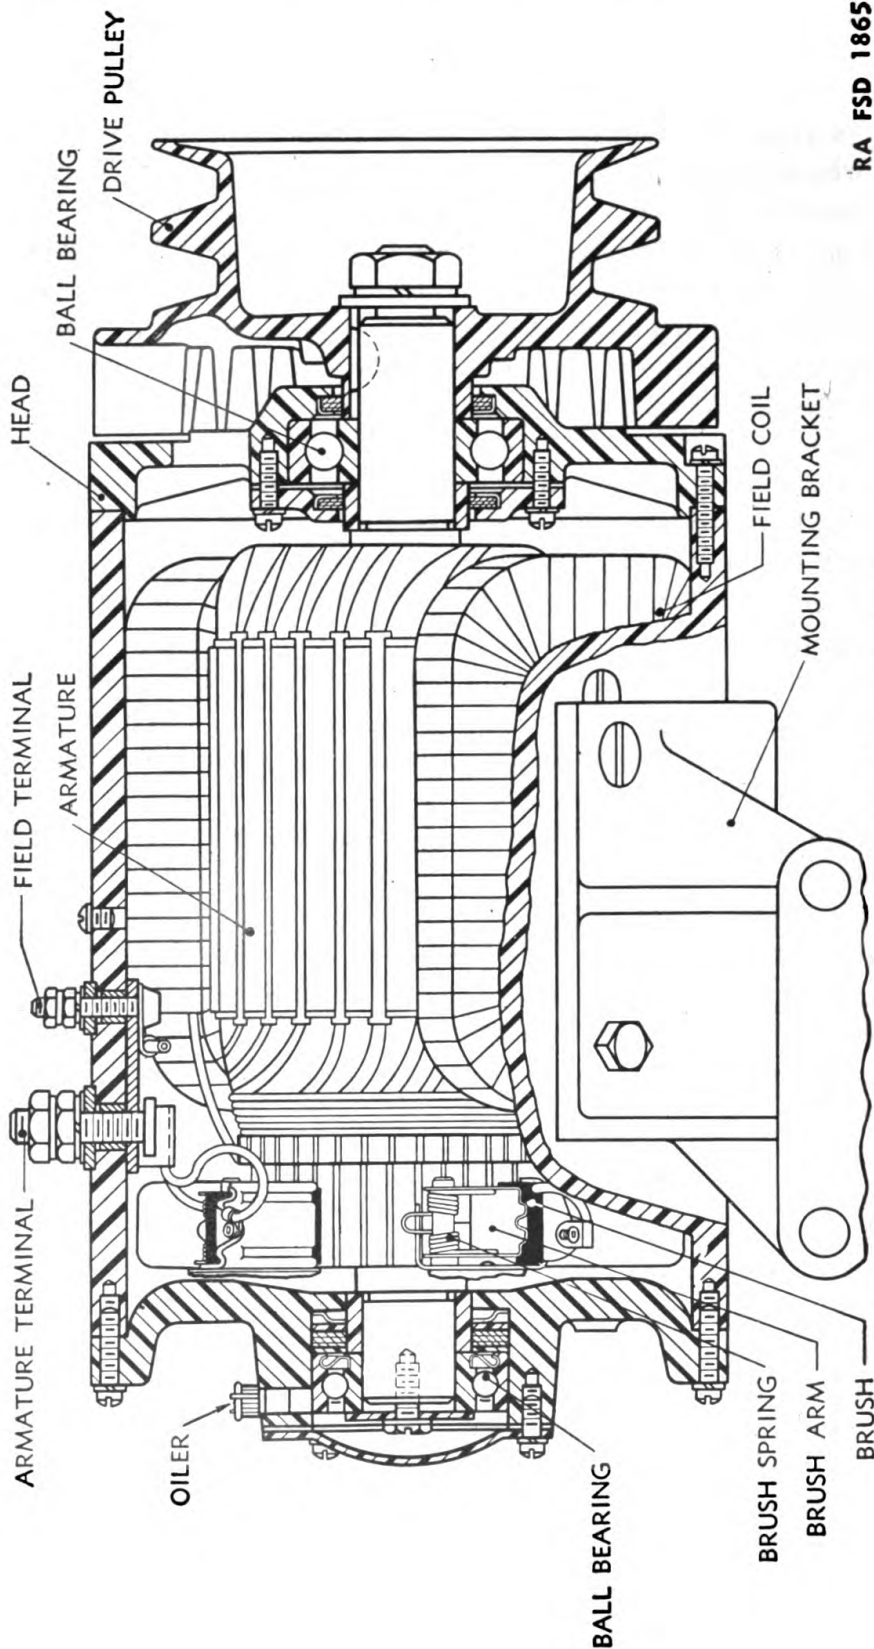

FIGURE 31.—Generator assembly, sectionalized.
(1) *Construction* (fig. 31).—The generator field frame has the form of a hollow cylinder. The four pole shoes and four field coils are attached on the inside of this frame. Within the frame-and-field assembly the armature is supported. One end of its shaft projects through a bearing in a head assembly secured to the extremity of the frame-and-field assembly, and carries a pulley for the drive belt. The other end, at which the commutator is located, is engaged by a bearing in a second head assembly, which holds the commutator brushes and closes the opposite extremity of the frame-and-field assembly. A bracket is screwed to the bottom of the frame-and-field assembly and to the side of the engine, fastening the generator in place with the commutator at the rear and the pulley to the front in line with the engine fan. Both head assemblies have openings and on the rear face of the drive pulley are vanes which force air through the generator from end to end to ventilate and cool it. On top of the frame-and-field assembly, near the commutator end, are insulated, shielded terminal posts to which the armature and field windings are separately attached.